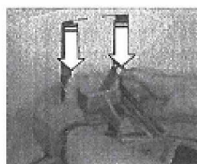

Figure 28 Pressing the tip comb holder downwards
1. Press the tip comb holder downwards evenly with both hands (Figure 28).